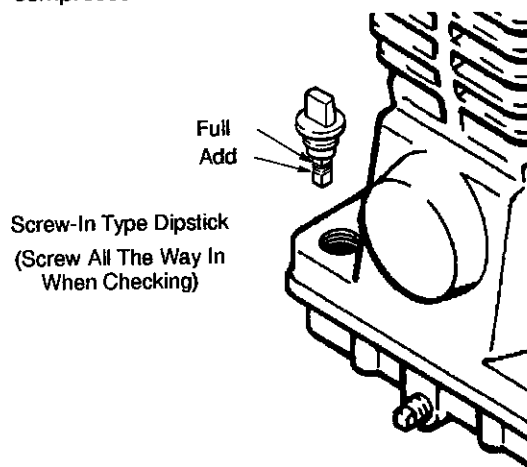

Figure 3. Checking Oil Level
2. Check the level of oil in the pump with the dipstick. The pump oil level must be at the full mark of the dipstick. See Figure 3. Do not overfill or underfill.